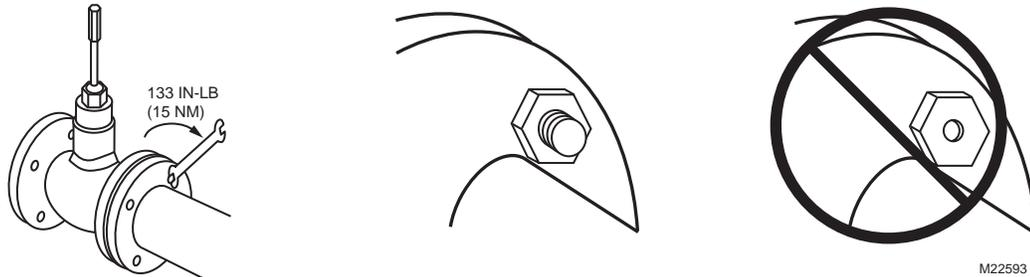
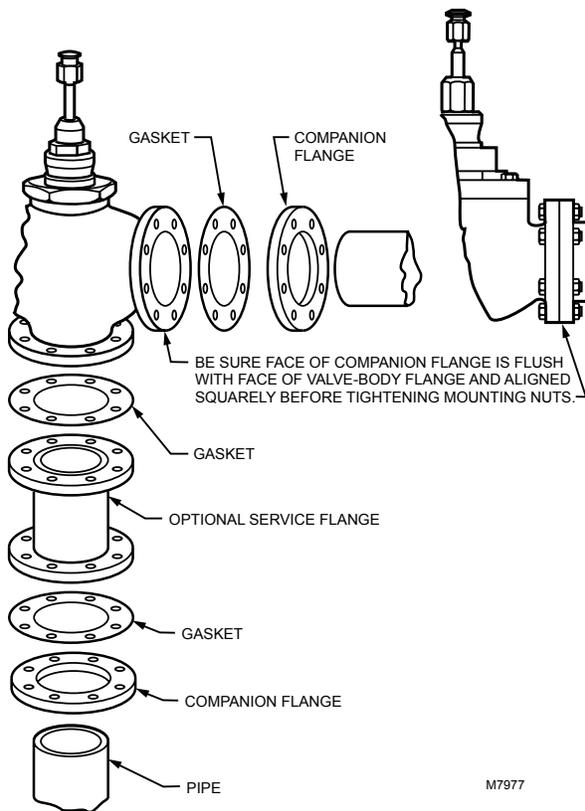

Fig. 11. Basic proper bolt length.
Fig. 12. Flanged valve body installation.
7. Use mounting bolts long enough so the nuts can use the full length of the nut threads. (See Fig. 11.) Use bolts 1/8 in. smaller than the diameter of the bolt hole to allow clearance for installing. (See Fig. 12.)
See Fig. 12 for typical installation.